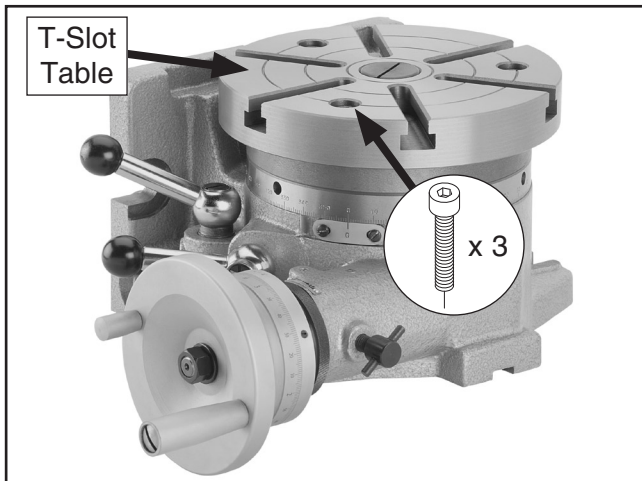

Figure 5. T-slot table installed.
3. Secure the table with the (3) M10-1.5 x 60 cap screws, as shown in **Figure 5**.